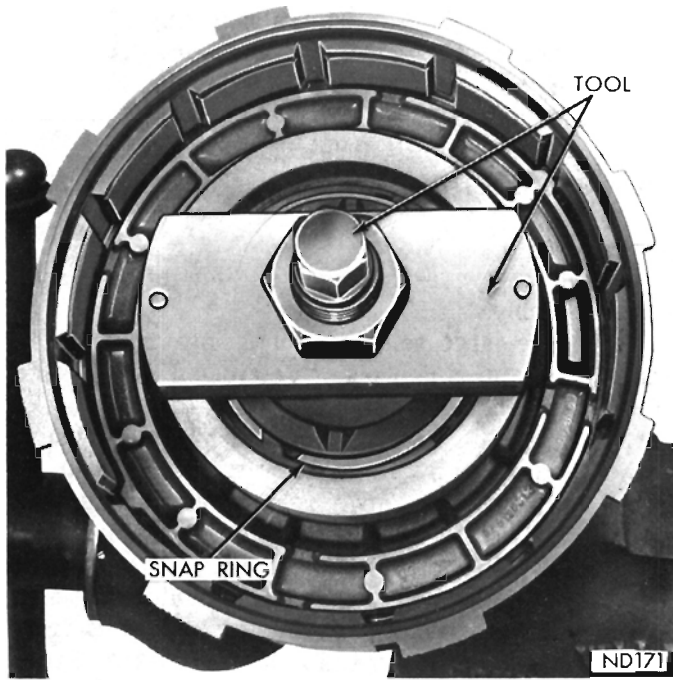

Fig. 72—Removing or Installing Front Clutch Retainer Snap Ring (A-727)
(1) Remove large selective snap ring that secures pressure plate in clutch piston retainer. Lift pressure plate and clutch plates out of the retainer.
(2) Install compressor, Tool C-3863 over piston spring retainer, (Fig. 72). Compress springs and remove snap ring, then slowly release tool until spring retainer is free of hub. Remove tool, retainer and springs.
(3) Invert clutch retainer assembly and bump it on a wood block to remove piston. Remove seals from piston and clutch retainer hub.
(2) Install outer seal on the clutch piston, with lip of seal toward bottom of clutch retainer. Apply a coating of wax type lubricant or Door Ease to outer edge of seals for easier installation of piston assembly. Place piston assembly in retainer and carefully seat piston in bottom of retainer.
(3) Refer to "Front Clutch Chart" and install springs on piston exactly as shown in Figure 74, 75, 76 or 77. Position spring retainer and snap ring over the springs. Compress springs with Tool C-3863 (Fig. 72), and seat snap ring in hub groove. Remove compressor tool.
(4) Lubricate all clutch plates, install one steel plate followed by a lined plate (disc) until the number given in the chart is installed. Install pressure plate and snap ring. Make sure snap ring is properly seated.
(5) With front clutch completely assembled, push downward on pressure plate and insert a feeler gauge